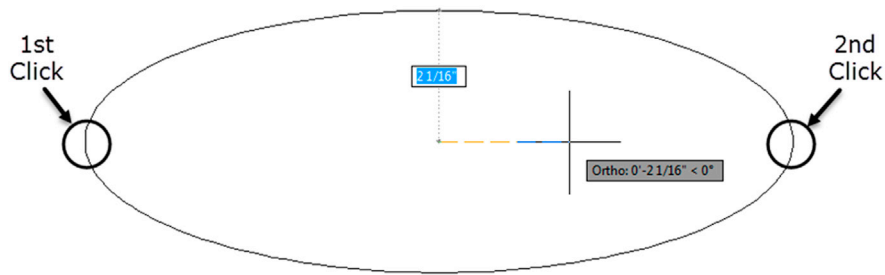

FIGURE 2.20 Ellipse after Step 3.
Step 3. With Ortho on (not required but good to have), click again somewhere off to the left or right of the first point. Then, move the mouse back toward the center as the ellipse is formed, as seen in Fig. 2.20.